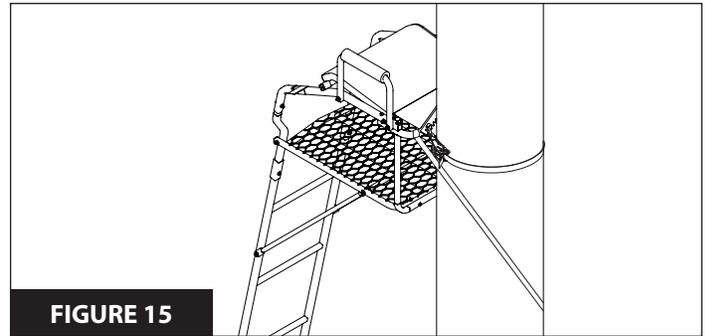

FIGURE 15
8. a. Standing on ladder step, lean toward tree with ratchet strap (32) now in hand, hook "S" hook with long strap through hole provided on tree blade. Feed the long strap through the center (slot) of ratcheting mechanism and back around through tightening lever. **SEE FIGURES 15, 16A AND 16B.**